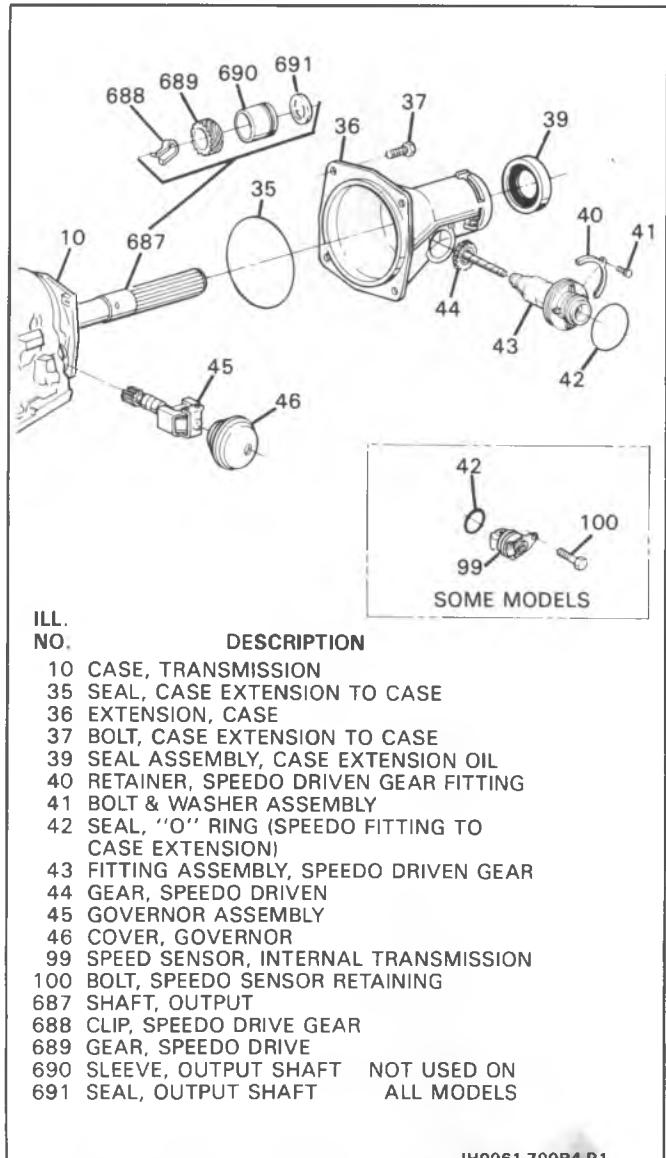

Figure 9 Extension and Associated Parts
Remove or Disconnect (Figure 9)
3. Speed sensor retaining bolt (100)
4. Speed Sensor assembly (99) and o-ring seal (42)
5. Case extension bolts (37) and case extension (36)
6. Extension seal ring (35)
7. Output shaft sleeve (690) and output shaft o-ring seal (691)
**Remove or Disconnect (Figures 9)**